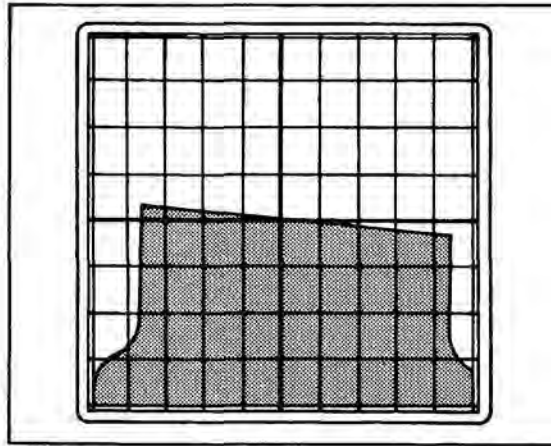

Figure 7-21 145 MHz Frequency Range Display
5. Verify bench Spectrum Analyzer display is similar to Figure 7-21. Amplitude should be between 0 dBm and +10 dBm for the minimum frequency range of 145 MHz (± 6 MHz).